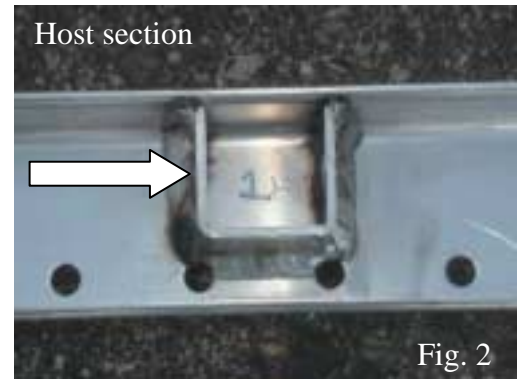

Fig. 2
- C. Stand the legs upright so that the plastic cap end is on the floor. The legs will run perpendicular to the length of the Porta Trak (like railroad ties). Match up the number on the legs with the number inside the square host sections of the rail (See Fig 2 and 3)